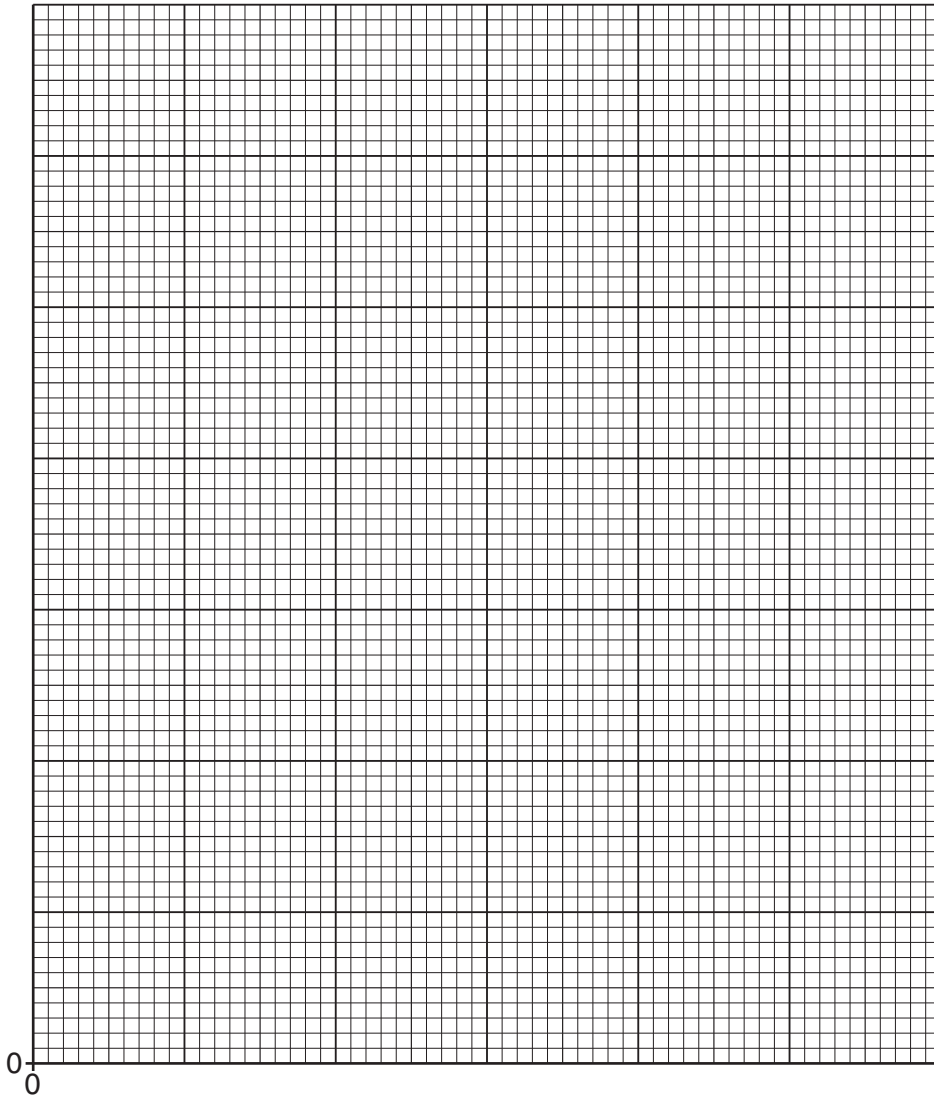

Fig. 1.4
- (i) On Fig. 1.4, plot the graph of e/mm on the y -axis against F/N on the x -axis. Start your axes from the origin. Draw the line of best fit.